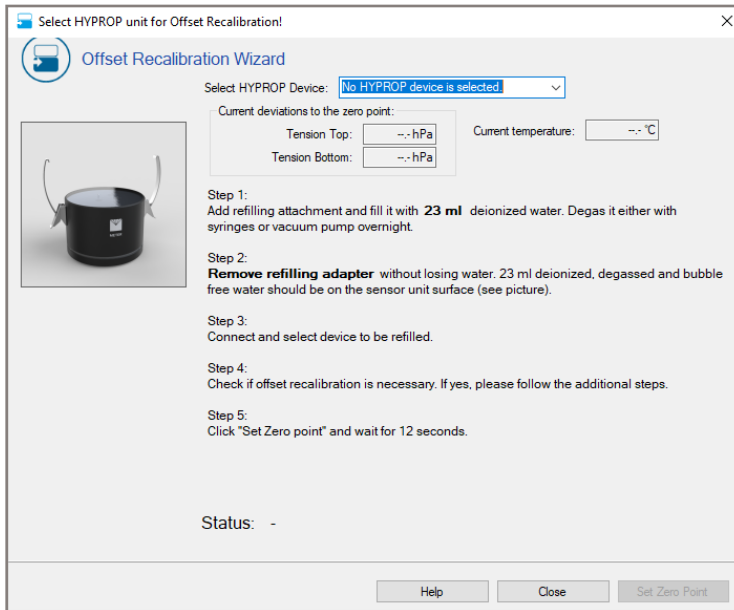

Figure 36 Offset Recalibration
6. Select Offset Recalibration Wizard and choose the device you want to process by using the drop down menu to select HYPROP Device (Figure 36).